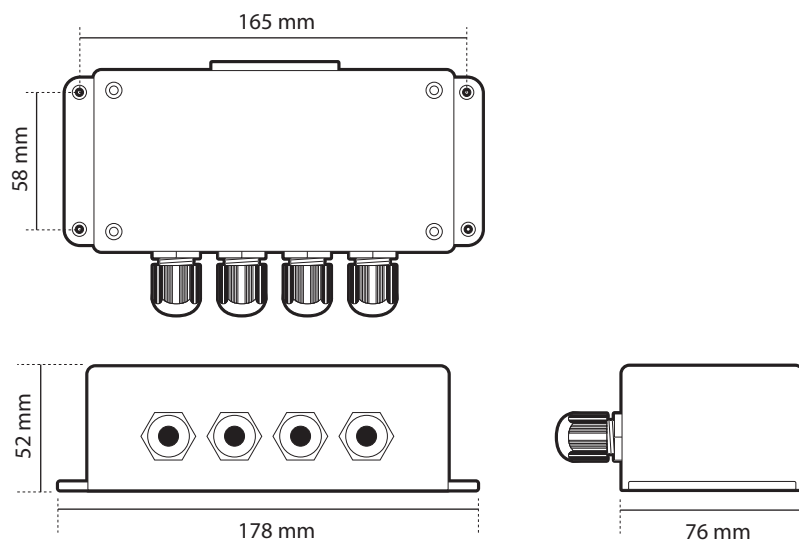

Figure 37 Junction box dimensions
- There should be adequate space around the junction box for routing of cables. See Figure 37 for details of the junction box dimensions.